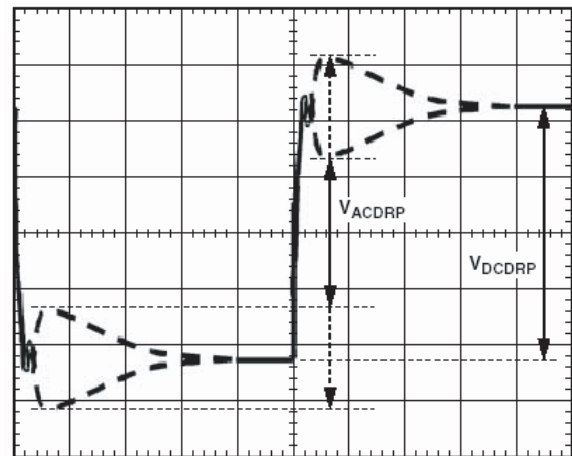
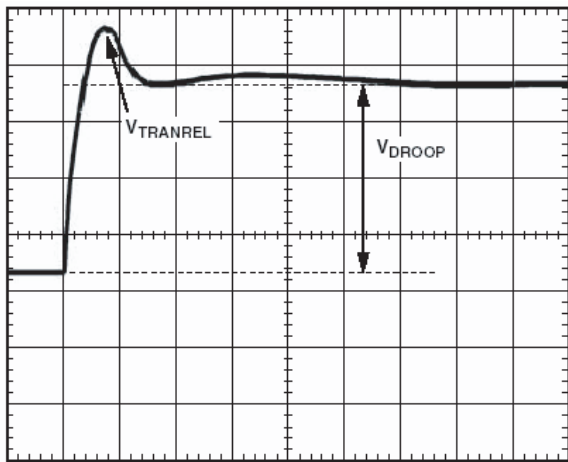

Figure 9. Transient Setting Waveform
Figure 10. Transient Setting Waveform
19. With dynamic load still set at maximum step size, expand the scope time scale to see 2 μ s/div to 5 μ s/div. You will see a waveform that may have two overshoots and one minor undershoot (see Figure 9). Here, V_{DROOP} is the final desired value.
21. For load release (see Figure 10), if $V_{TRANREL}$ is larger than V_{TRAN1} (see Figure 9), you do not have enough output capacitance. You will either need more capacitance or need to make the inductor values smaller (if you change inductors, you need to start the design over using the spreadsheet and this tuning procedure).